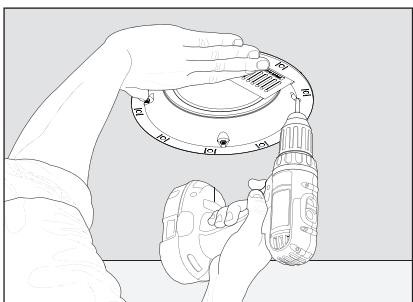

Fig. 5d
10. Supporting the assembly with one hand, tighten each screw using the electric drill and Torx T20 bit. Stop tightening when you sense resistance (Figs. 5d & 6d). **MC6-HT:** Before tightening screws orient speaker so the drivers are positioned towards the desired position.